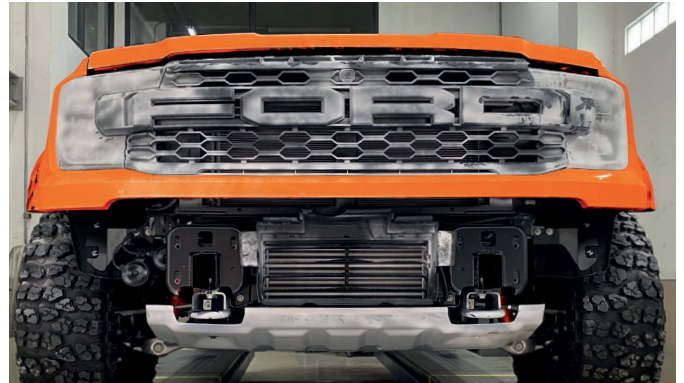

Fig.16
16. Remove the front bumper (fig.16).